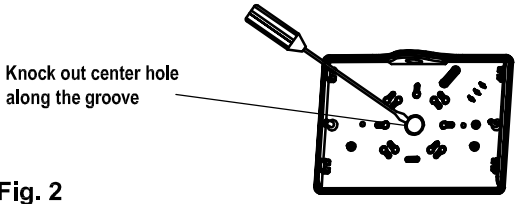

Fig. 2
5. If unit for indoor use, building supply wire can feed from center hole, need remove center knockout hole on back plate(See Fig 2).